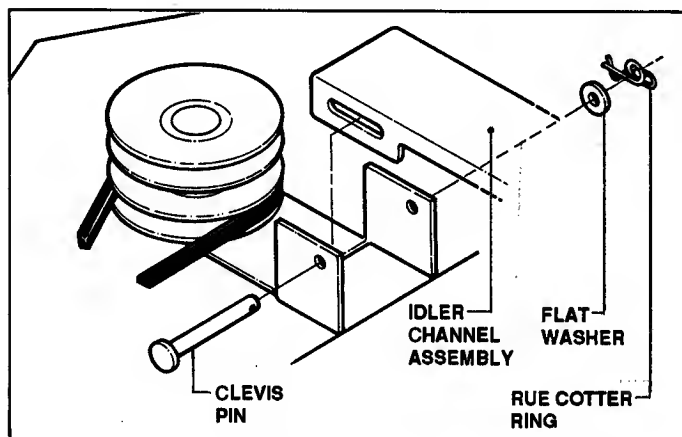

FIGURE 11.9
- G. Remove clevis pin from front of idler channel assembly. See Figure 11.9.